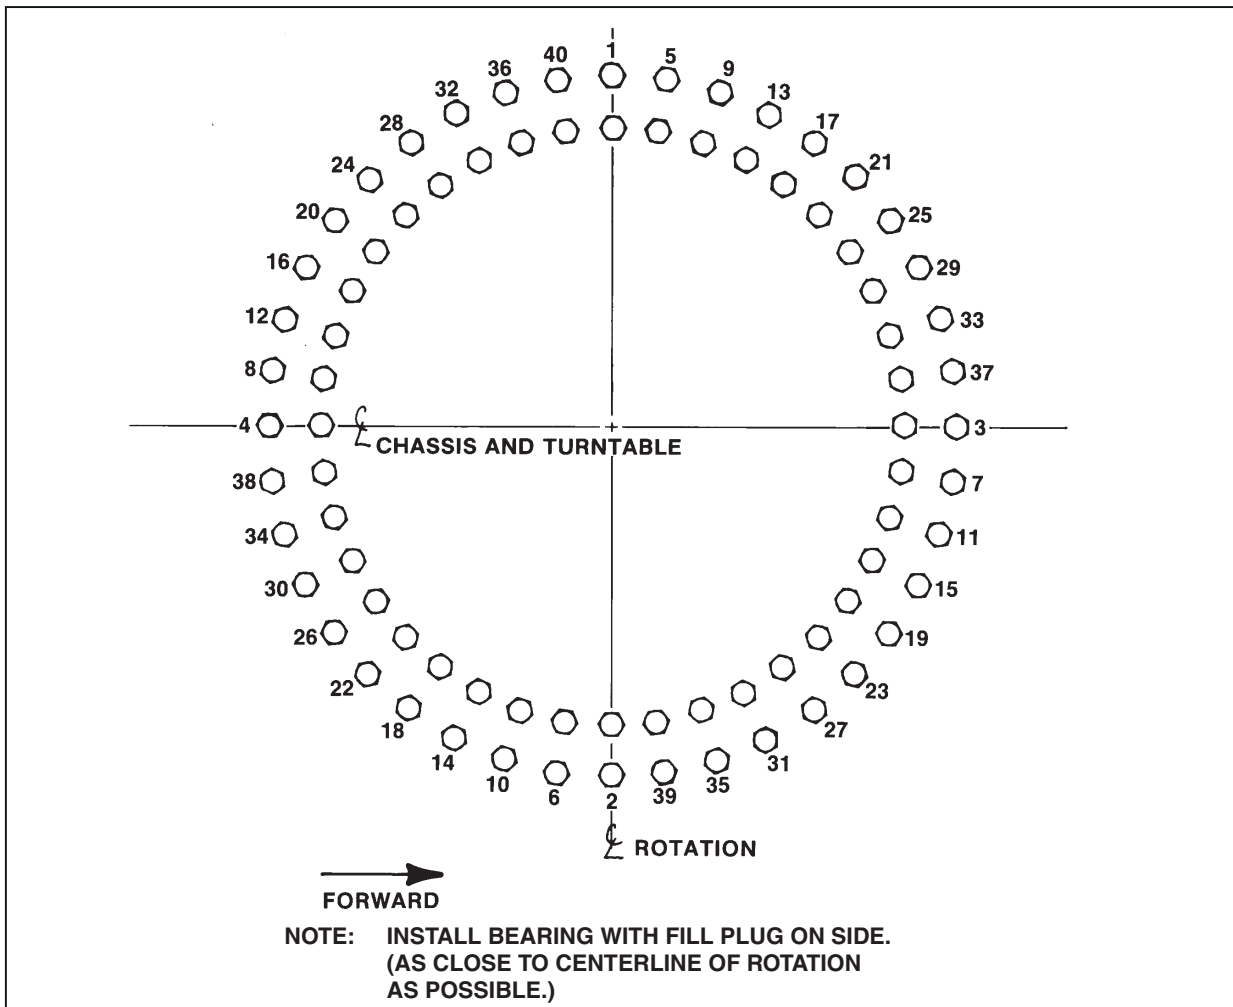

Figure 2-18. Swing Bearing Bolt Torquing Sequence
- c. Following the Torque Sequence diagram shown in Figure 2-18, tighten the bolts to an initial torque of 244 Nm. Then following the same sequence tighten the bolts to a final torque of 325 Nm.
- h. Following the Torque Sequence diagram shown in Figure 2-18, tighten the bolts to an initial
3. Swing Bearing Torquing Sequence, see Figure 2-18.